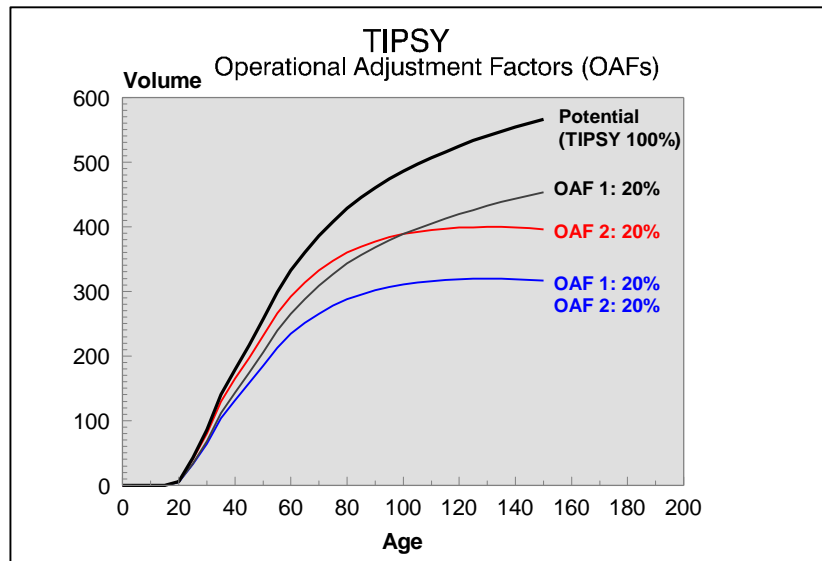

Figure 1. Operational Adjustment Factors (OAFs)
- It uses optional Operational Adjustment Factors (OAFs) (Figure 1) to mimic operational conditions. Two types of OAFs are available in TIPSYS to account for elements that reduce potential yields. OAF 1 accounts for the reduction of physical growing space due to holes created by rock outcrops, swamps and non-commercial tree cover. OAF 2 accounts for pest damage that increases towards maturity.